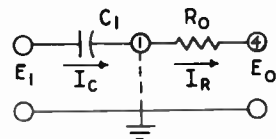

Fig. 23. An intuitive picture of the differentiator.
Consideration of the device in Fig. 23 will give a feeling for the differentiator circuit. Since pin (1) is at ground potential: